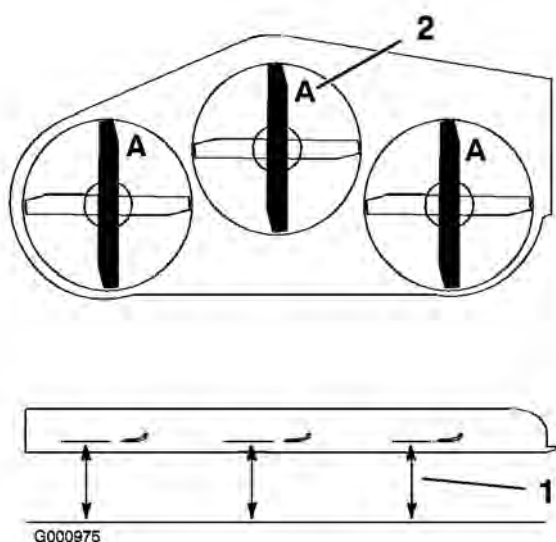

Figure 73
1. Rotate the blades until the ends face forward and backward (Figure 73). Measure from a level surface to the cutting edge, position **A**, of the blades (Figure 73). Note this dimension.